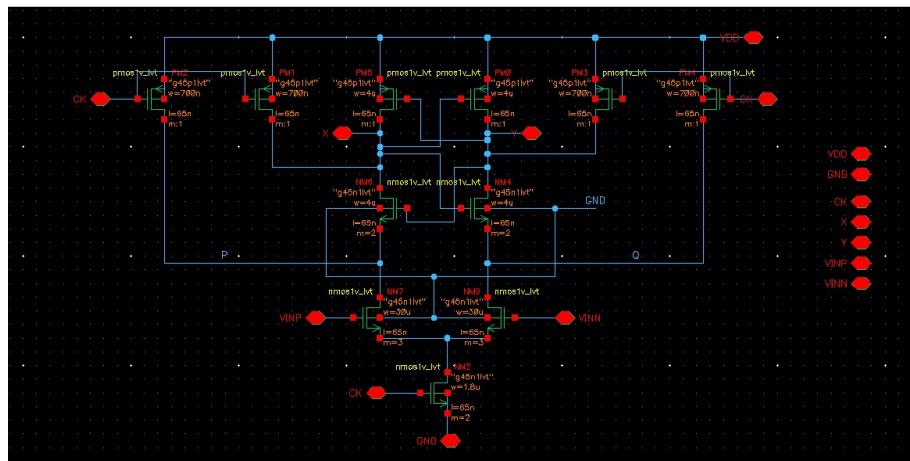

fig1: Strong Arm Latch
I Simulated the Test Bench which is shown in fig 4 in Cadence for a Ramp input using vpwl from analoglib. This Test Bench consists Strong Arm Latch(Core of Comparator), RS Buffer, Output Buffer which are shown in fig 1,2,3 respectively. I verified the output by performing the Transient Analysis with given Test Bench with default values of Widths (120 nm) & Lengths (45 nm). I got the maximum offset of 30mv. So, I started calculating the widths of differential pair transistors by taking reference2. In which Change in threshold voltage is given by
The tail transistor M_7 in Figure 1 must draw sufficient current for the given values $V_{GS7} = V_{DD}$ and $V_{DS7} = V_{inCM} - V_{GS1,2}$ where V_{inCM} denotes the input common-mode (CM) level. With $V_{inCM} = 0.8V$ and $V_{GS1,2} = 0.35V$ and we have $V_{DS7} = 0.15V$. Hence device operates in the deep triode region.